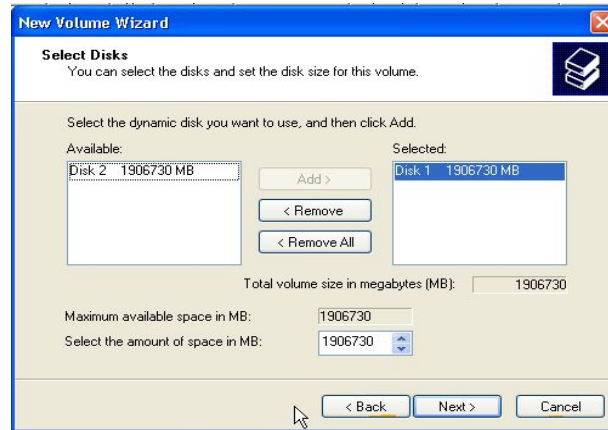

FIGURE 6-23. New Volume Wizard - Select Disks Screen.
2. The *New Volume Wizard - Select Disks* screen appears. Make sure that “Disk 1” is selected. Click **NEXT >**. See Figure 6-23.